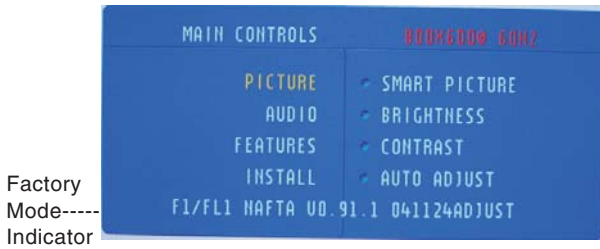
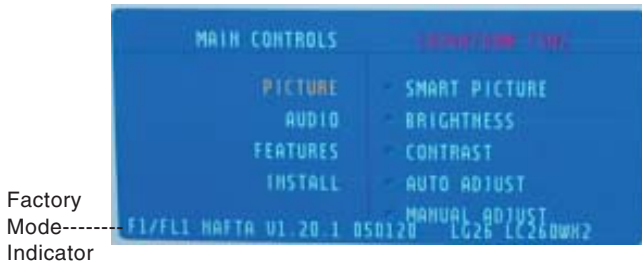

Fig. 12
Fig. 13
- 2). Press power "Power " button. Then quickly push " Volume -" and " Volume +", and hold this two buttons, then the screen comes out "Waiting For Automatic Adjustment ", then the screen will be black for one second ,until comes out "Windows screen"] => then release this two buttons, then press "Menu" button, wait until the OSD menu You will find, after upgrade, the version have already changed from The former "F1/FL1 NAFTA V0.91.1 041124ADJUST" to the Present "F1/FL1 NAFTA V1.20.1 050120 Lg26 LC260WX2" as shown in Fig. 12 and Fig. 13.